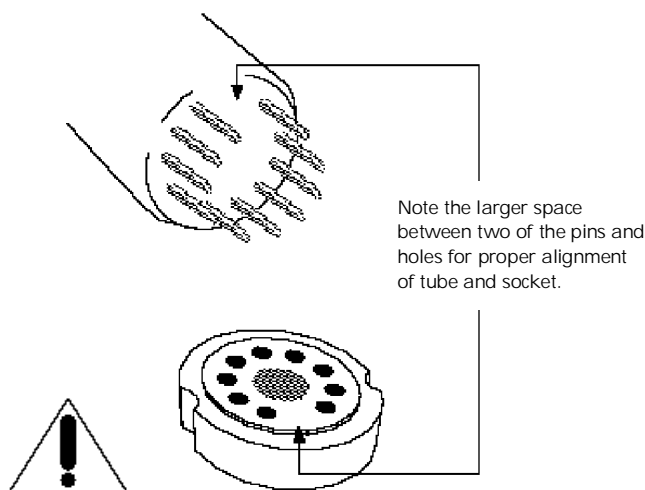

Figure 2 - Tube pin alignment with the socket.
4. Take a tube and inspect the pins, noting the larger space between two of the pins. This space will align with the same larger space between two of the pin holes on the socket. Insert the tubes into the tube sockets, making sure all pins and pin holes are aligned (see Figure 2). Do not force the tube into the socket. "Rock" the tube gently while pushing slowly until the tube is firmly seated.